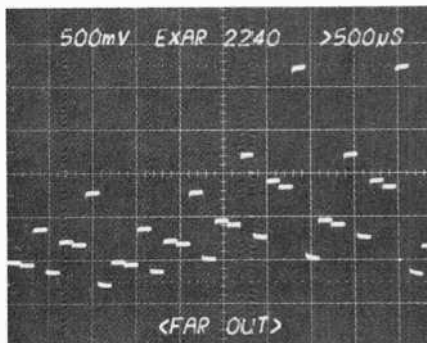

Fig. 4. Complex waveform obtained by connecting resistors to outputs.
**Waveform Generator.** Another possibility is to use the circuit as a complex waveform generator. I really mean complex, because the XR-2240 can generate all kinds of stepped waveforms. The photo in Fig. 4 shows part of a repetitive, stepped waveform generated by connecting several resistors of different values between the binary counter outputs and the circuit output.
If you don't need far-out waveforms like the one in Fig. 4, you can generate more conventional staircases. For a staircase with 256 steps, connect a resistor with a value of about 1000 ohms from pin 8 to the output. Then connect resistors 2, 4, 8, 16, 32, 64, and 128 times that value from pins 7, 6, 5, 4, 3,